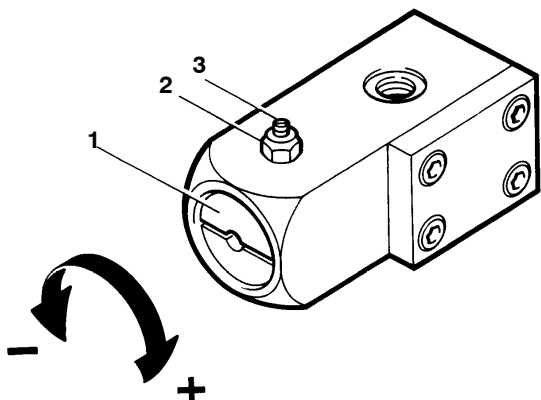

Fig. 34 Pressure maintaining valve
The pressure maintaining valve (Fig. 34) is adjusted at the factory to the required pressure and normally does not require regular maintenance or readjustment. In case of readjustment becoming necessary, loosen jam nut (2) and set screw (3). Adjust screw (1) to the required pressure using a suitable screw-driver.